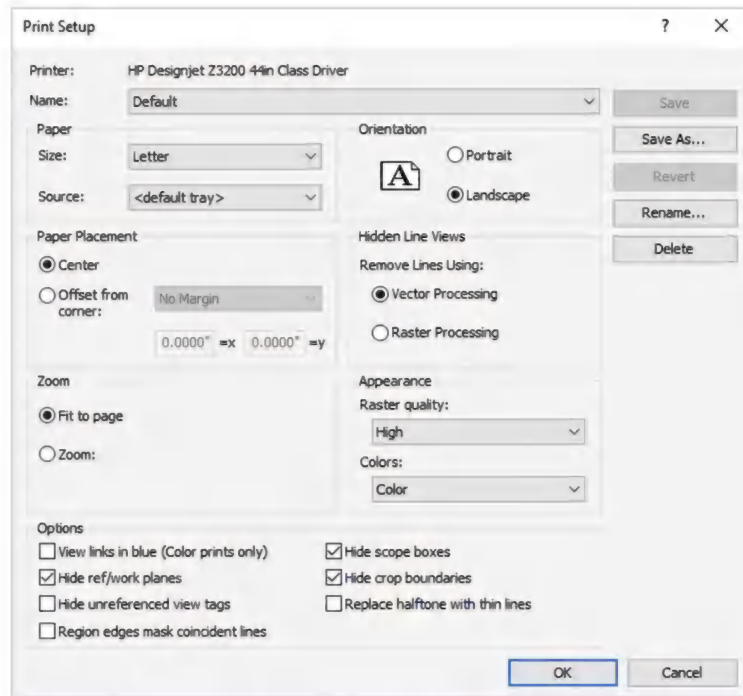

FIGURE 2-6.2 Print Setup dialog
5. Adjust your settings to match those shown in **Figure 2-6.2**.